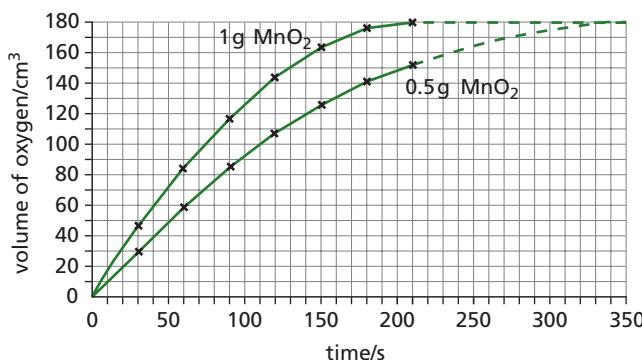

Figure 7.13 Sample data for differing amounts of MnO₂ catalyst.
Some sample results from experiments of this type have been plotted in Figure 7.13. At the end of the reaction, the manganese(IV) oxide can be filtered off and used again. The reaction can proceed even faster by increasing the amount and surface area of the catalyst. This is because the activity of a catalyst involves its surface. Note that, in gaseous reactions, if dirt or impurities are present on the surface of the catalyst, it will not act as efficiently; it is said to have been 'poisoned'. Therefore, the gaseous reactants must be pure.